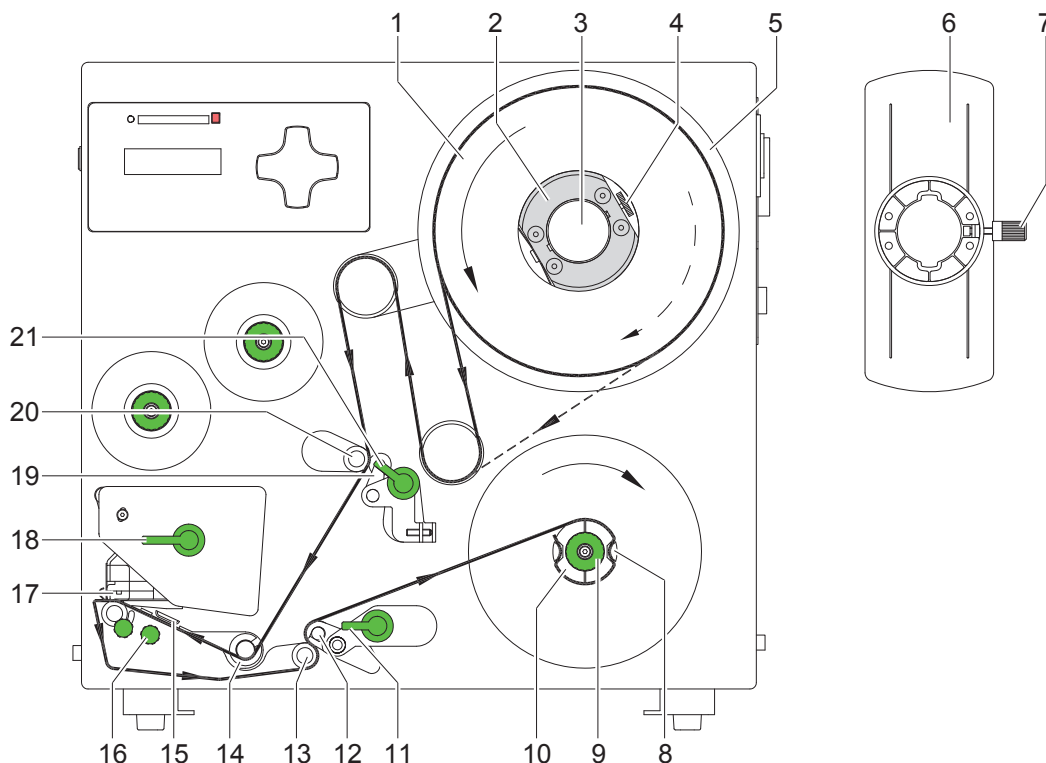

Fig. 5 Loading labels
1. On the media hub (3) there are a flange (6) and two adapters (2). Loosen the knurled screw (7) and remove the flange (6).
2. Loosen the knurled screws (4) at the adapters (2).
3. Slide the first adapter to the wind plate (5) until it blocks and tighten the knurled screw (4).
4. Place the second adapter in such a position, that the distance between the outer edge of the adapter and the wind plate (5) is a little less than the width of the label roll.
5. Place the label roll (1) onto the adapters (2) in such a way, that the labels are visible from above after unrolling, and slide the label roll against the wind plate (5).
6. Put the flange (6) on the supply hub (3) and slide it against the label roll (1).
7. Tighten the knurled knob (7).
8. Swing the three levers (11, 21 and 18) clockwise and open this way the transport system (12, 13) and the backfeed system (19, 20). The printhead (17) also will be unlocked from the print roller.
9. Slide the media guide (14) into its outermost position.
10. Unroll a length of label stock from the media roll and feed it first to the printhead (17) as shown in fig. 5.
13. Feed the liner as shown in figure 5 to the internal rewinder (10).
14. Slide the media strip under the rewinder clamps (8) to the wind plate.
15. Hold the rewinder and turn the knurled knob (9) counterclockwise. That way the label strip will be fixed at the rewinder.
16. Turn the rewinder (10) clockwise for tightening the label strip.
17. Slide the guide (14) against the outer edge of the label strip.
18. Swing all levers (11, 21 and 18) counterclockwise. In this way the transport system (12, 13) and the backfeed system (19, 20) will be closed and the printhead (17) will be locked.